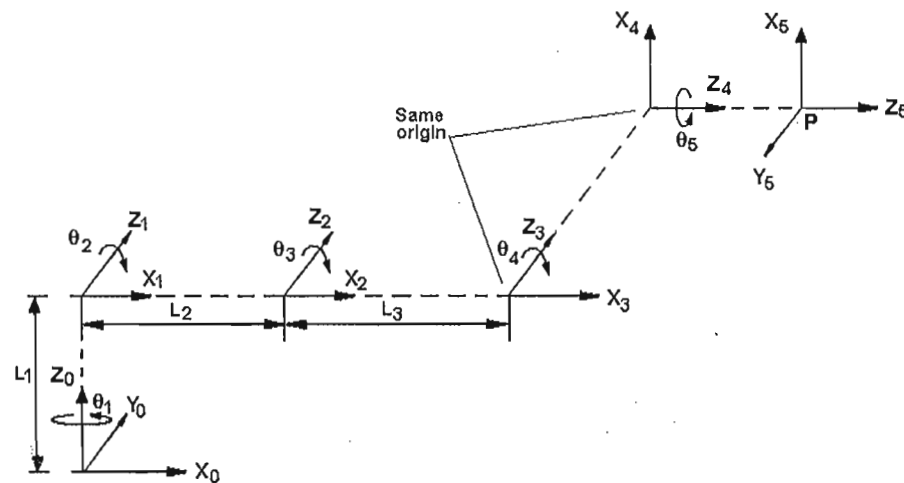

Fig. Q2
2. A 5-DOF robotic manipulator is represented by the Fig. Q2. Determine the overall transformation matrix from base to tool.